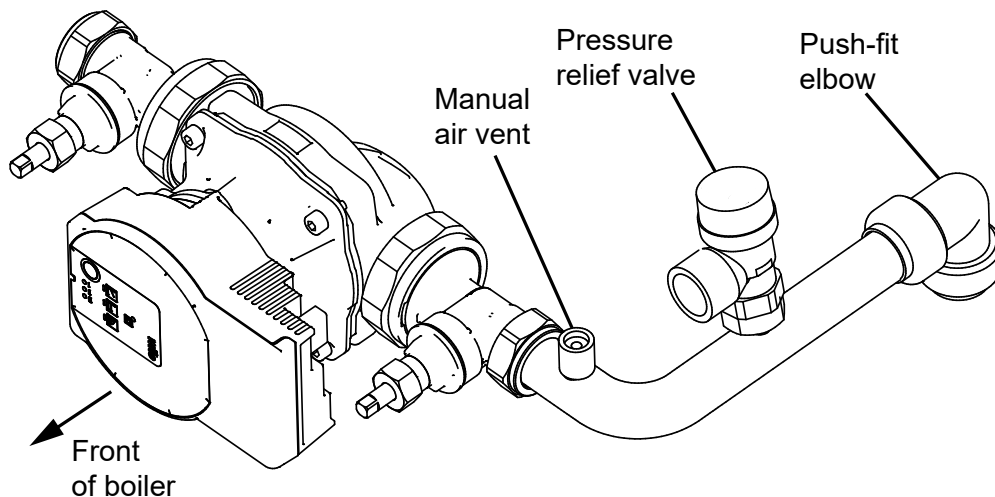

Figure 7-3: VortexBlue External 21 & 26 sealed system kit pump assembly (Wilo Para SC pump shown)
See Figure 7-3
7. Fit the pressure relief valve onto the manifold pipe, then push the manifold pipe end into the 22 mm push-fit elbow on the flow pipe. Refer to Figure 7-3.